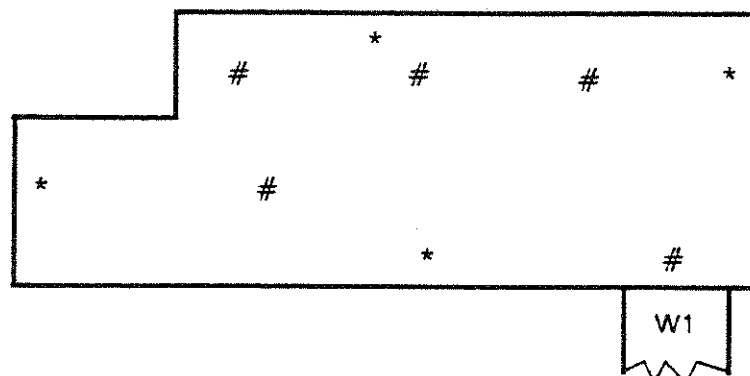

Fig. 4-1 Screws to fasten the display board
*Caution: Remove only the screws marked by * in figure 4-1. The other screws (#) serve to fasten the sheets between keys and PC board.*